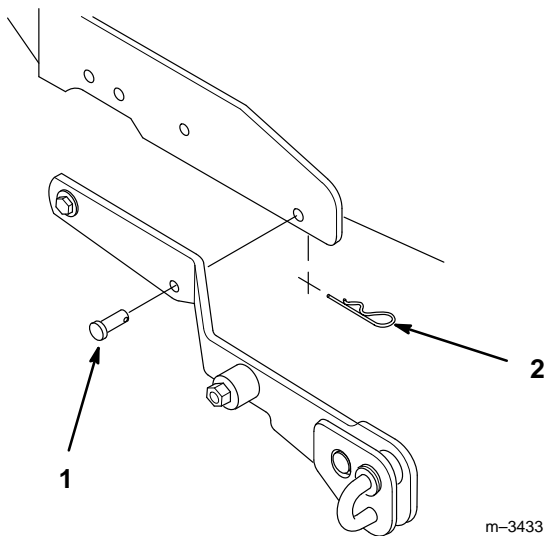

Figure 4
4. Install (2) 3/8" x 1" (25 mm) clevis pins into each side of the lift assembly in the positions shown in Figure 4. Secure with (2) hairpin cotters.